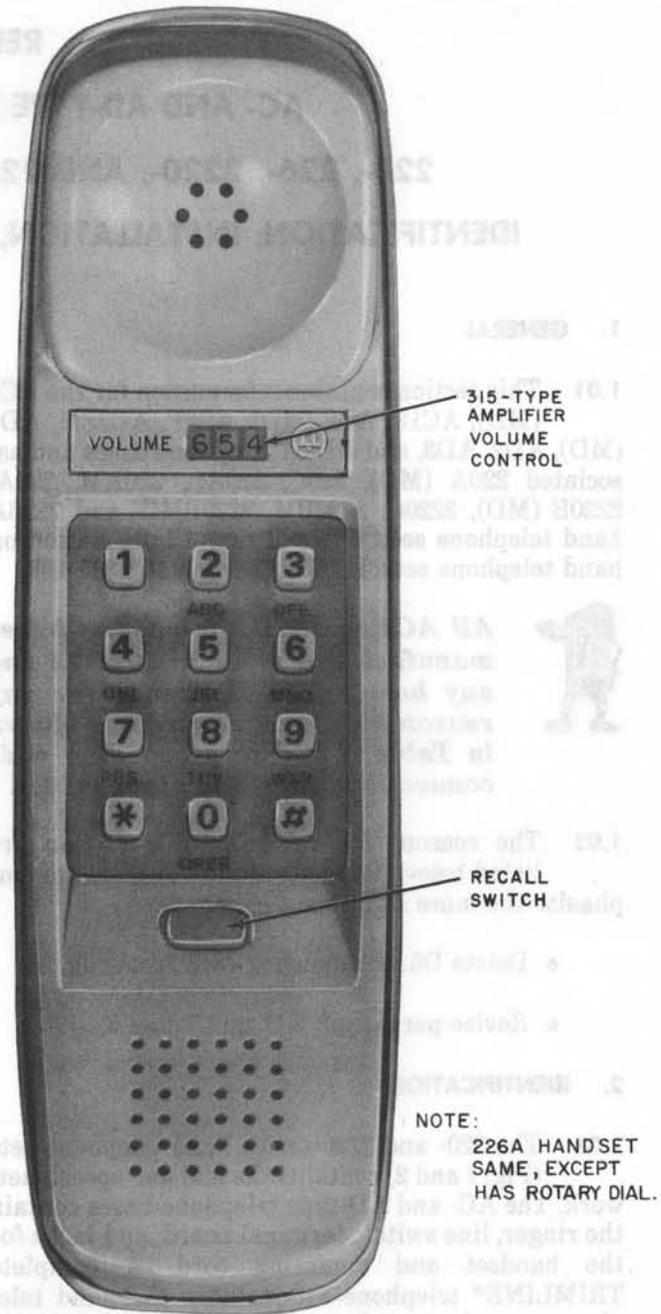

Fig. 3—2226A Hand Telephone Set
2.03 The 226A and 2226A handsets (Fig. 3) contains a 315B amplifier which provides up to 20 dB of